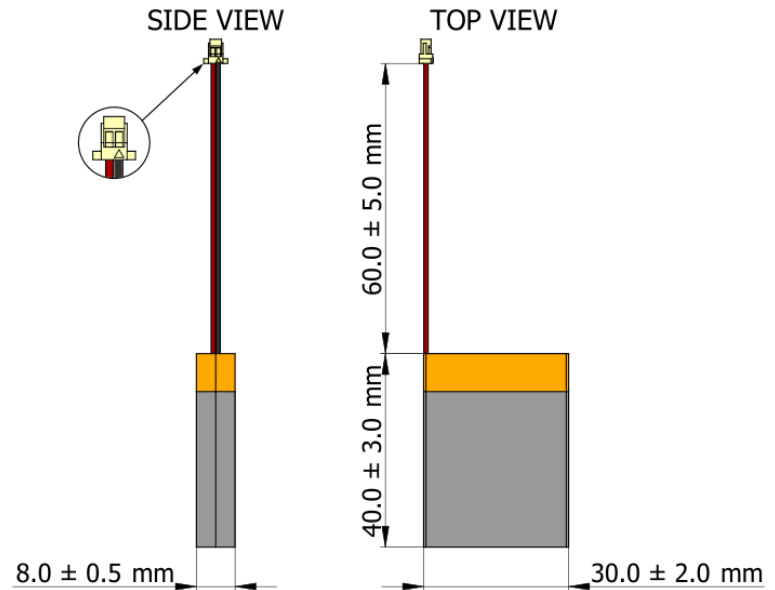

Figure 1: 1000mAh Battery Drawing & Dimensions
**1.1 Outline Dimensions:** See attached drawing, Figure 1, for dimensions.